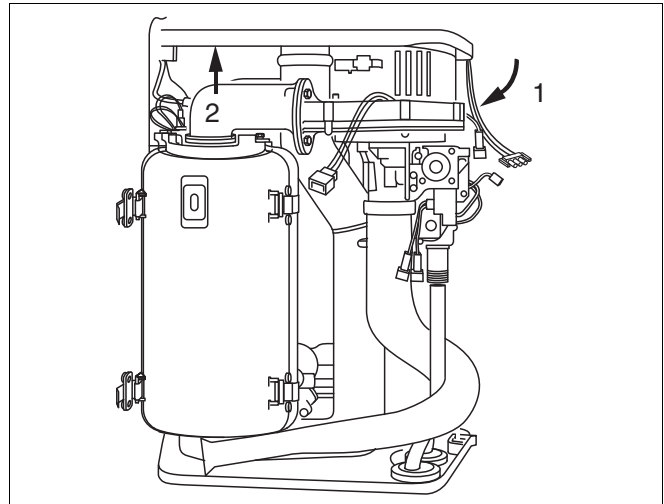

Fig. 79 Replacing the gas burner fitting on the 600 Series: Remove the gas connection unit
- Swivel the "CombiVENT" gas combination unit forward (fig. 79, item 1)
- Remove the "CombiVENT" gas combination unit from its bayonet connector and pull upwards to detach (fig. 79, item 2).